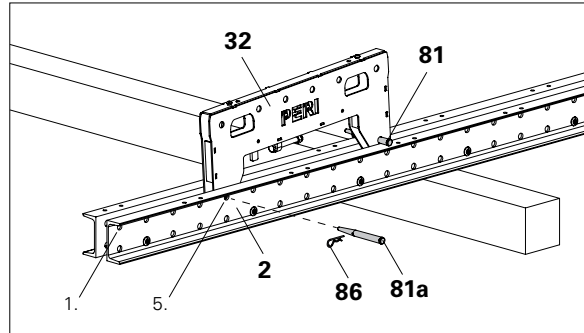

Fig. C1.12
1. Insert Fitting Pins (81) in Platform Cantilever Beam (32) on one side and place on Climbing Rail (2). Fix other Fitting Pins (81a) and Cotter Pins (86) in the fifth holes of the Climbing Rail. (Fig. C1.12)